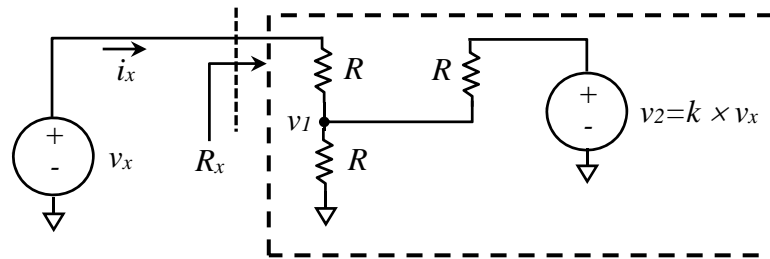

Fig. Q5b
- (b) Derive the value  $k$  for the circuit shown in Fig. Q5b such that  $v_I = 0.99v_x$ .